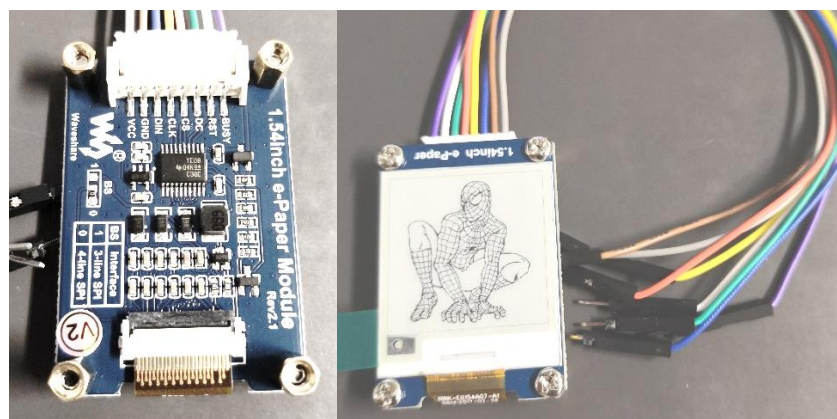

Fig. 3.1 (a) Back view: driver (b) Front view: Epaper panel
Fig. 3.1 shows a photo of the e-paper and the driver board (manufacturer Waveshare). To communicate with the e-paper in this project, Serial Peripheral Interface (SPI) is used. SPI is an interface bus, using clock (SCK) and data lines (MOSI – Master-Output-Slave-Input, MISO – Master-Input-Slave-Output) for data communications. Additionally, a slave select line (SS) is used to choose the device that to be communicated with. Some devices use a half-duplex interface, having only a single data line. This kind of SPI is commonly referred as 3-wire SPI.